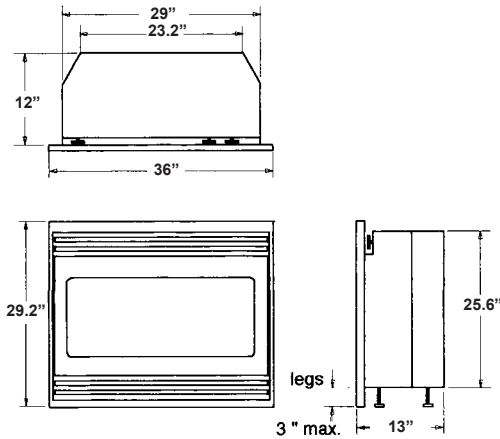

FIGURE 1
- The dimensions of the fireplace/insert are 36" wide (91cm) X 29.2" high (74cm) X 13" deep (32cm). (FIGURE 1) We recommend you leave a clearance around the insert of 1/2" (1.2cm) to ease installation.